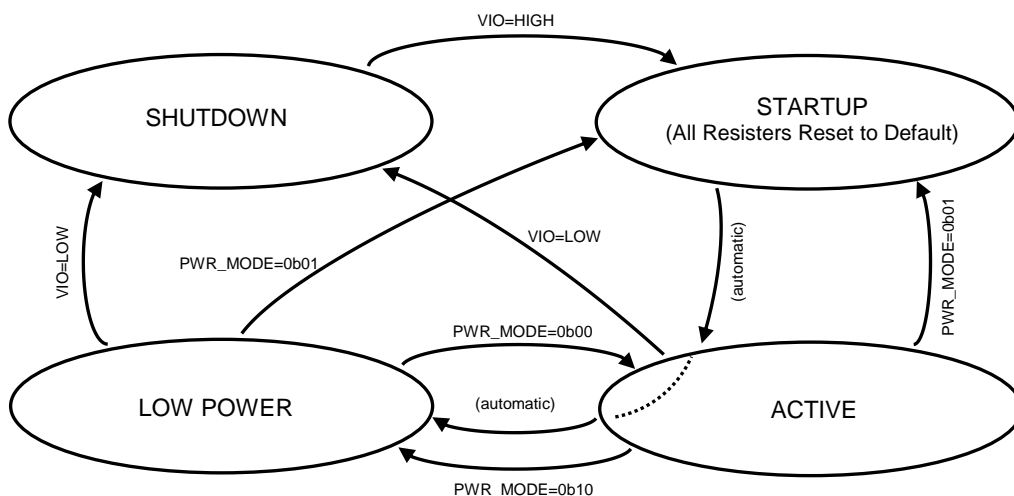

Figure 4. Slave State Diagram
- Figure 4, 5 and Table4 describes the RFASWY581CTF03 has four operating states.
The RFA581CTF03 has four operating states, which are ACTIVE, SHUTDOWN, STATUP and LOW POWER. The transitions between these four states are set writing the PWR_MODE register or VIO as shown in Figure 4. The internal circuit operations in each operating state are shown in Table 4.